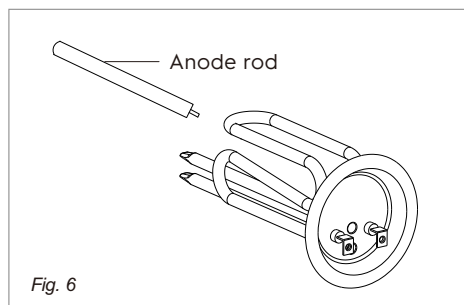

Fig. 6
- Remove and replace the anode rod (Fig. 6).